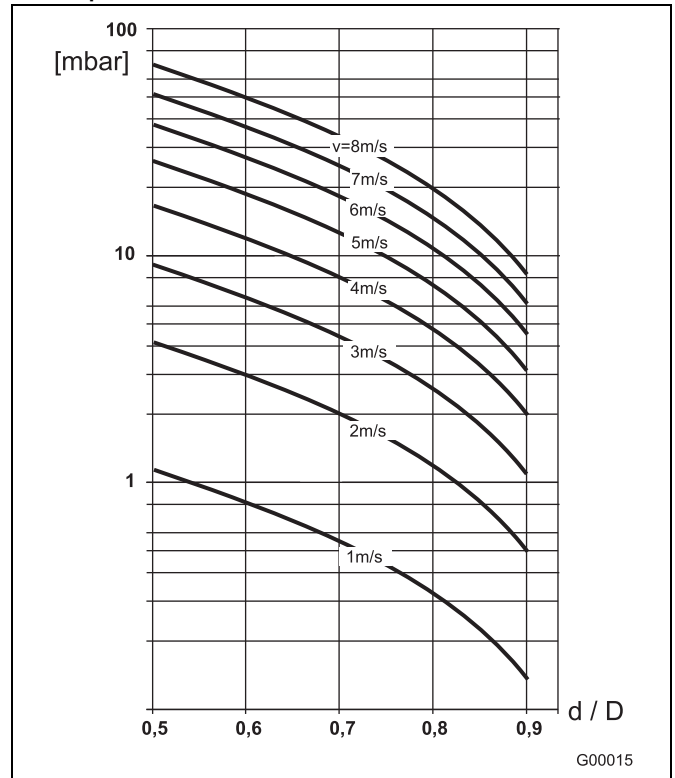

Fig. 10
2. Determine the flow velocity from the flow range nomograph (Fig. 10).
3. Read the pressure drop on the Y-axis in Fig. 10.